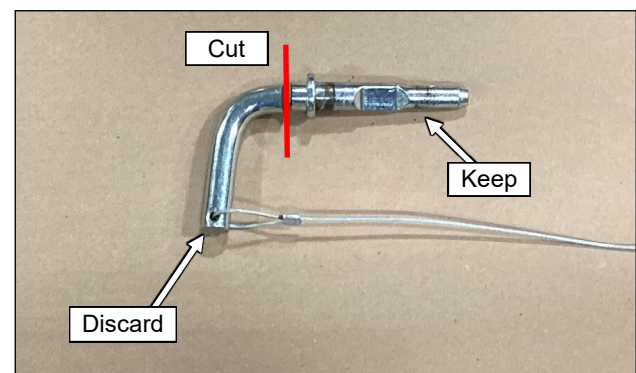

Fig. 3.6 (Trim ROPS pins)
- 3.6 Remove the ROPS pin and cotter pin from one side of the vehicle ROPS. Cut the ROPS pin 1/4" to 3/8" from the large shoulder on the pin, discarding the curved section as shown in Fig. 3.6.